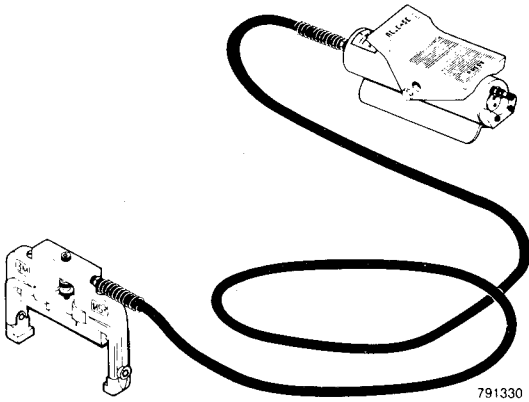

Fig. 5—4030 Crimping Unit.
- 4.01 4030 Air/Hydraulic Crimping Unit can be operated from an air cylinder or compressor with an output pressure of 80-100 pounds per square inch (90 is suggested). The pump is factory adjusted to a pressure cutoff of 4400 psi. The clamp will hold until released. See Figure 5.